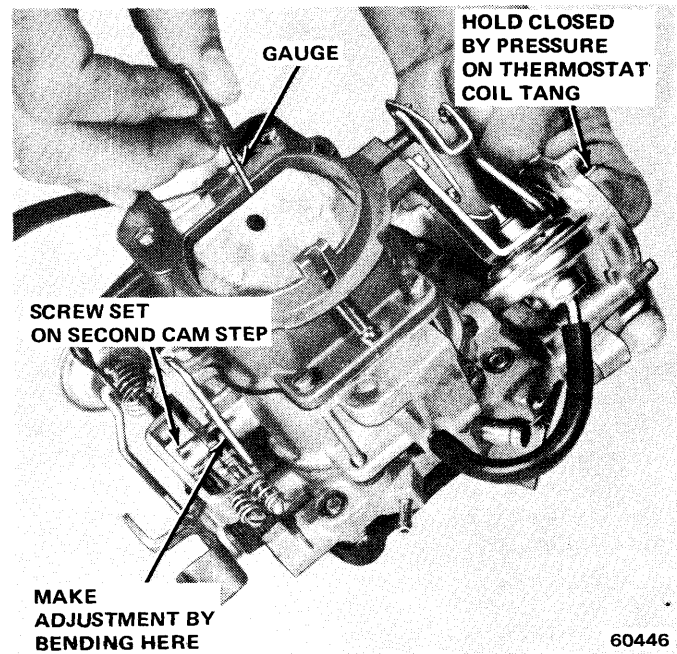

Fig. 4-60 Fast Idle Cam Adjustment
- (1) Loosen choke housing cover and turn 1/4 turn rich. Tighten one retaining screw.
- (2) Open throttle slightly and place fast idle screw on second step of cam.
- (3) Measure distance between choke plate and air horn wall (fig. 4-60). Refer to Specifications for correct dimension.
- (4) Adjust by bending fast idle cam link down to increase measurement, or up to decrease measurement.
- (5) Loosen housing cover screw. Set index to specifications. Tighten all housing retaining screws.